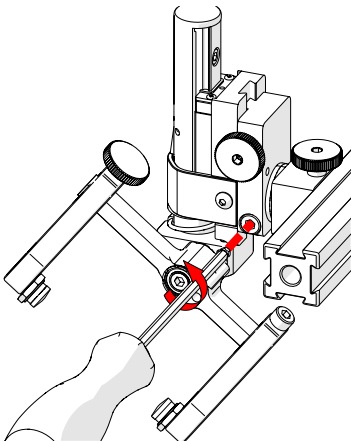

Fig. 54 - Loosen 3 mm screw
2. Using the supplied 3 mm hex driver (*Fig. 15*), loosen the longitudinal adjustment screw (*Fig. 54*).